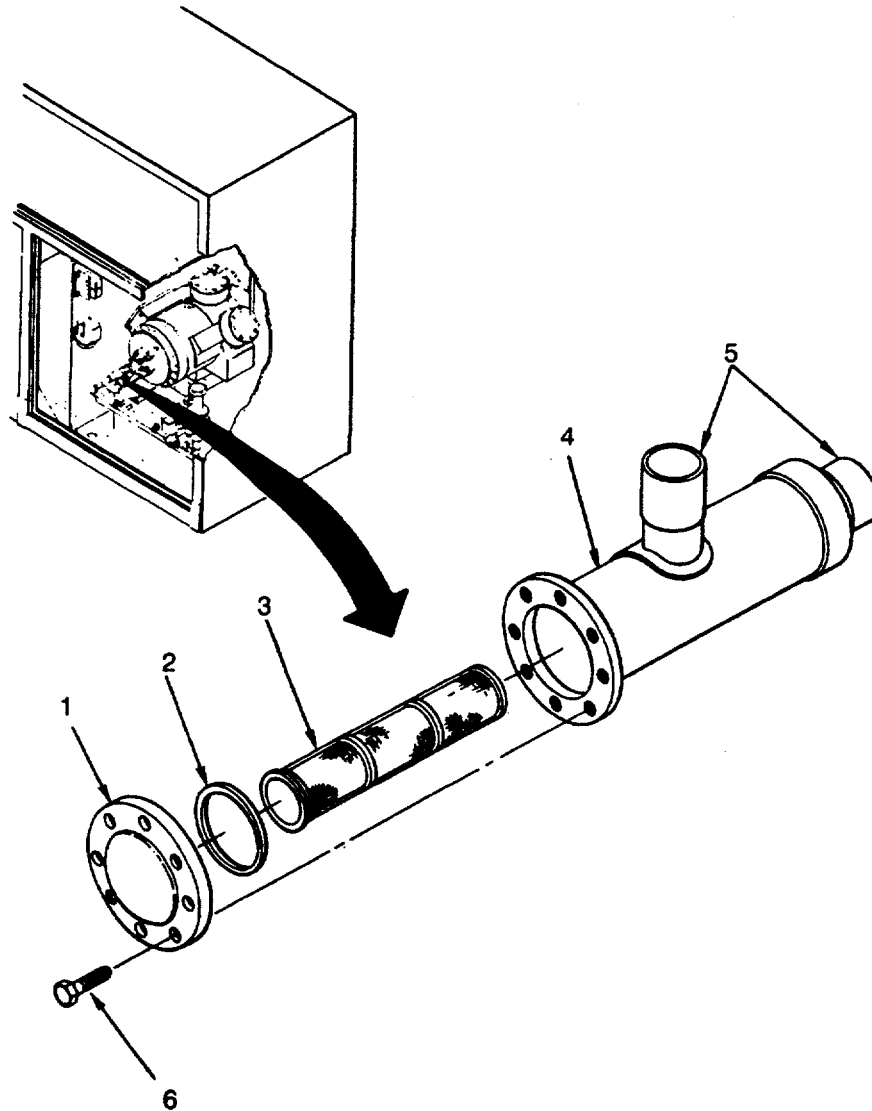

Figure 5-16. Refrigerant Strainer
1. Inspect for evidence of leaks, damaged lines, and loose or missing mounting hardware (see Figure 5-16).